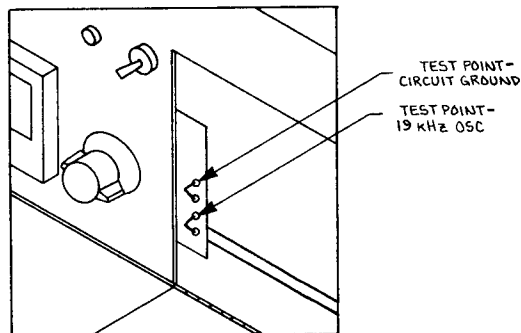

Fig. 6-1: Pilot Test Point
6) Pilot Frequency: This is most conveniently measured by opening the access door and connecting the frequency counter input across two terminals (Fig. 6-1) located on the P.C. card mounted on the rear of the rotary switch to the left of the access door opening.